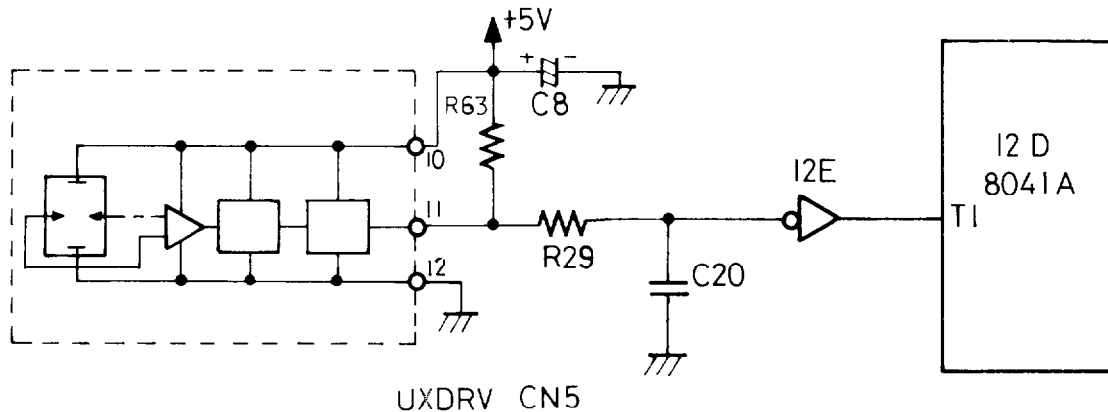

Fig. 2.23 PE sensor circuit
4) Paper end sensor circuit (Fig.2.23)